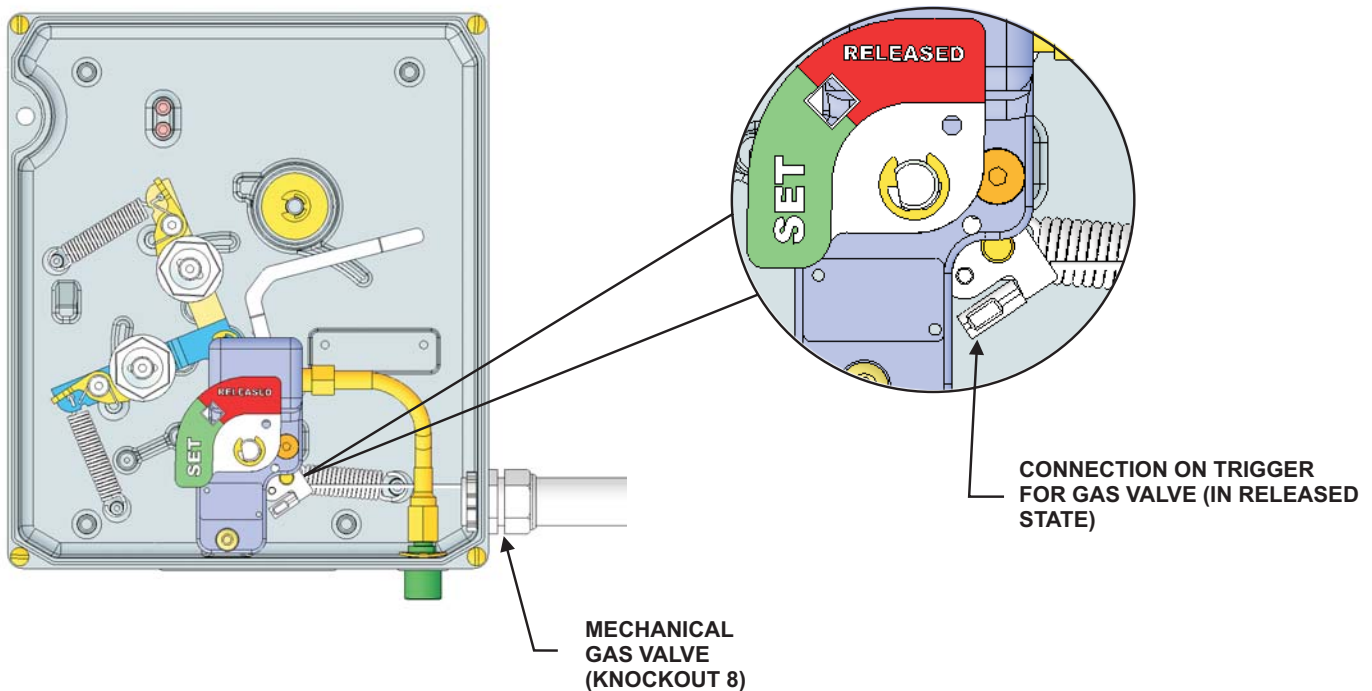

Figure 4-62. Cabling Gas Valve (Cam/Flag in 'Released' State)
4. Pull the cable back through so the crimp rests at the trigger (see Figure 4-62).